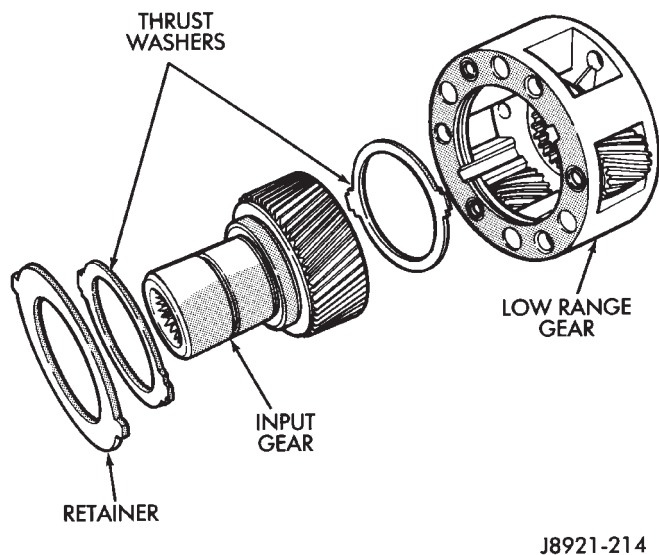

Fig. 32 Low Range Gear Disassembly
- (46) Remove input gear retainer, thrust washers and input gear from low range gear (Fig. 32).